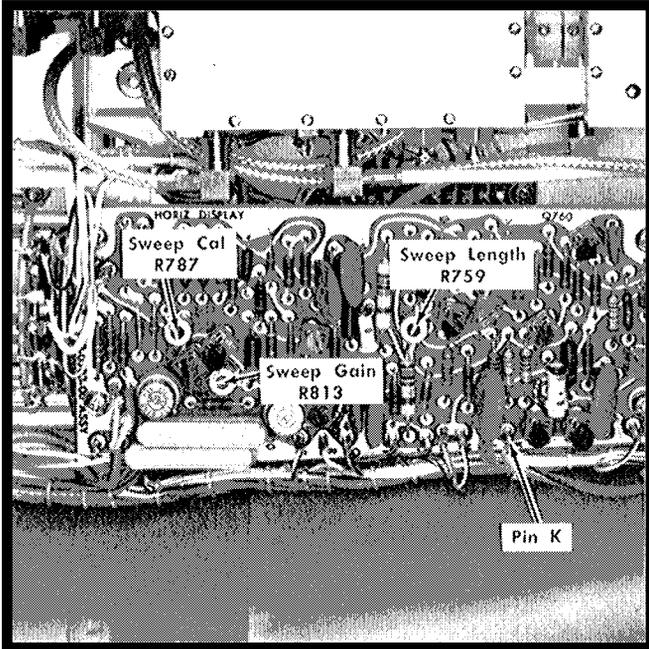

Fig. 6-15. Location of trigger and sweep adjustments.
- c. Adjust the Sweep Length R759 (see Fig. 6-15) for a 7.5 V peak to peak sawtooth waveform on the test oscilloscope
c. Preset the Sweep Cal R787 to midrange. Adjust the Sweep Gain R813 (see Fig. 6-15) for 10.5 divisions of sweep length. Adjust Sweep Cal R787 for 1 marker per division. Sweep timing must be within  $\pm 3\%$  (1.2 minor divisions) over the center 8 graticule divisions.